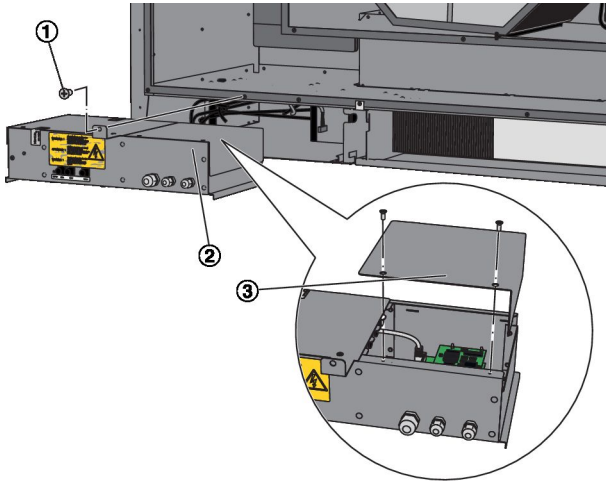

Fig. 13: SCHOOLAIR-B-HE control equipment box
2. ▶ On the control equipment box (Fig. 13/2) loosen the Phillips screw (Fig. 13/1), then pull out the box. Loosen the screws on the cover (Fig. 13/3), then remove the cover.